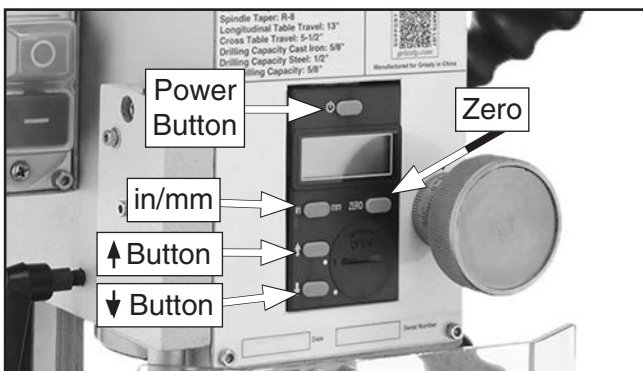

Figure 19. Identification of DRO controls.
1. Press Power/⏻ button (see Figure 19). A reading should appear on display.